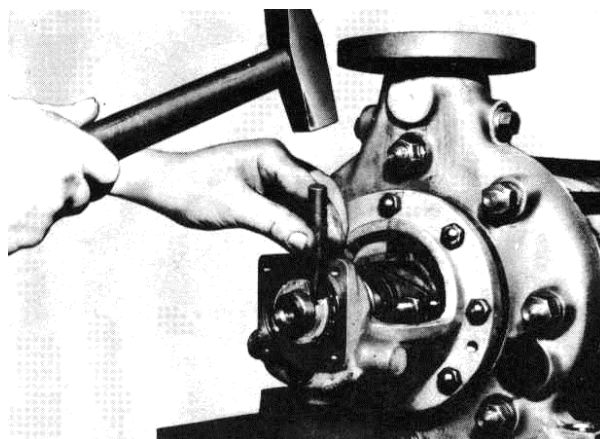

Fig. 50 - Slackening the ring nut
4. Slacken ring nut of clamping sleeve (52-1) by a few turns (see Fig. 50).